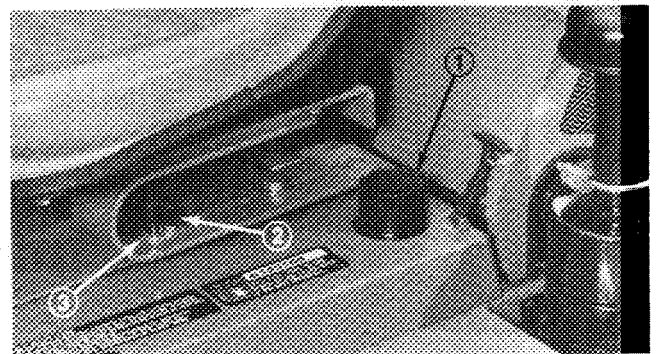

Figure 11
1. Tip seat forward and prop it so it cannot fall accidentally. Using a clean rag, clean area around fuel tank cap (Fig. 11).
Seat Adjusting Handle — Standard Seat (Fig. 11) — To adjust seat, loosen adjusting handle and slide seat to desired position. Tighten handle to lock seat in place.